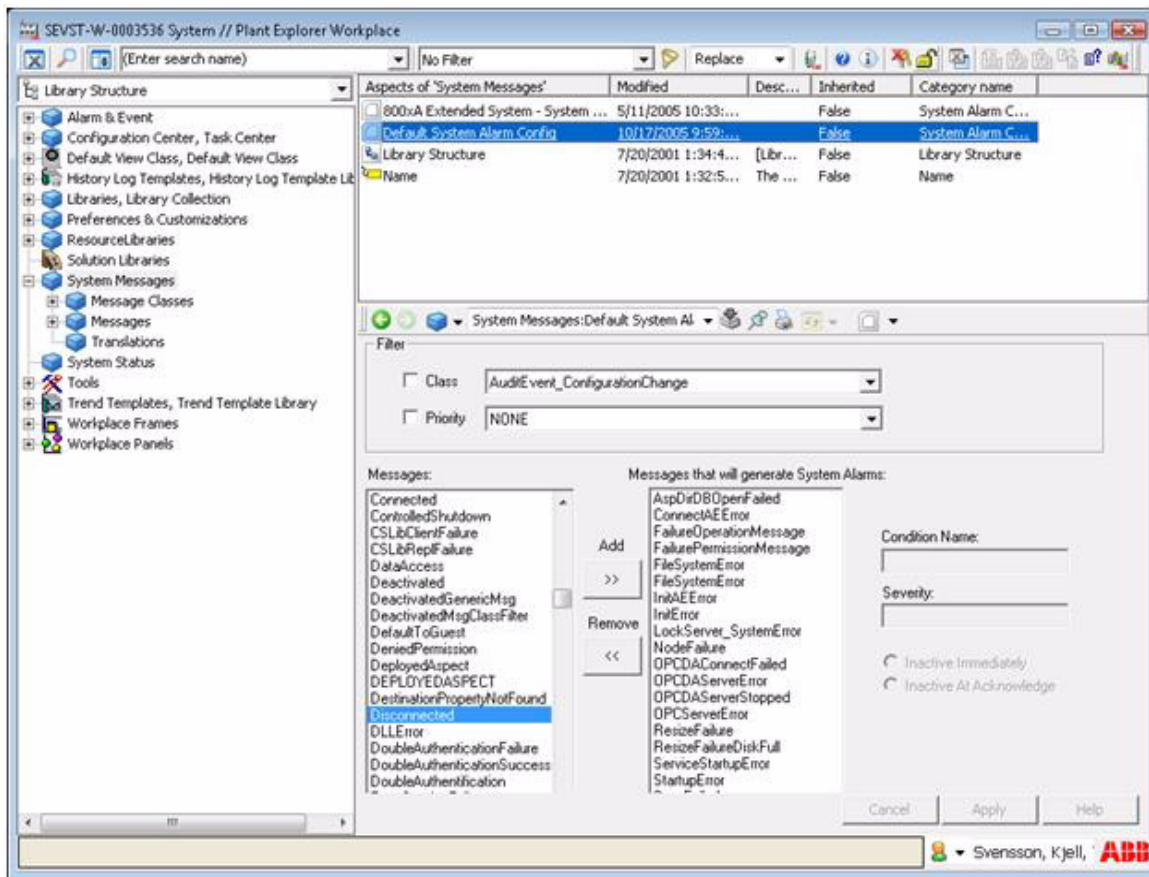

Figure 64. System Alarm
1. In the Library Structure, select System Messages object, see Figure 64.
6. Click Apply, see Figure 64.